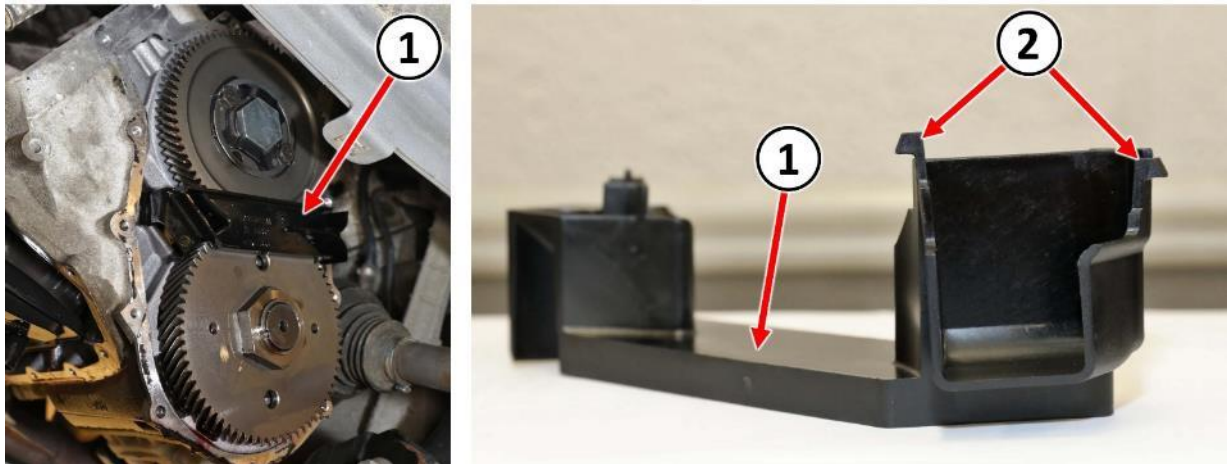

Figure 19 – Oil Scavenger
30. Remove the plastic oil scavenger (1) (Figure 19).
NOTE: Broken retaining tabs (2) on the oil scavenger (1) are acceptable because the scavenger is held in place by the transfer gear cover. However, if the scavenger is broken in such a way as to compromise its functionality, then it must be replaced (Figure 19).